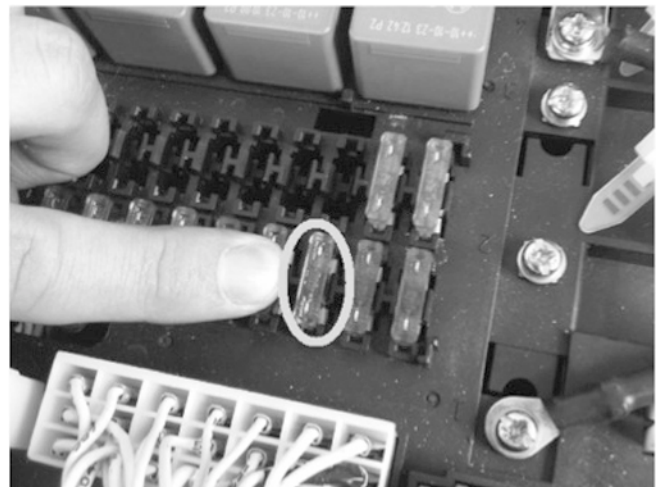

Figure 14-1
2. Remove the 20 Amp fuse from slot F39 (refer to label under fuse bank cover) (see *Figure 14-1*).
3. Install the new 25 Amp fuse (A8700026-025) to location F39 (see *Figure 14-1*).